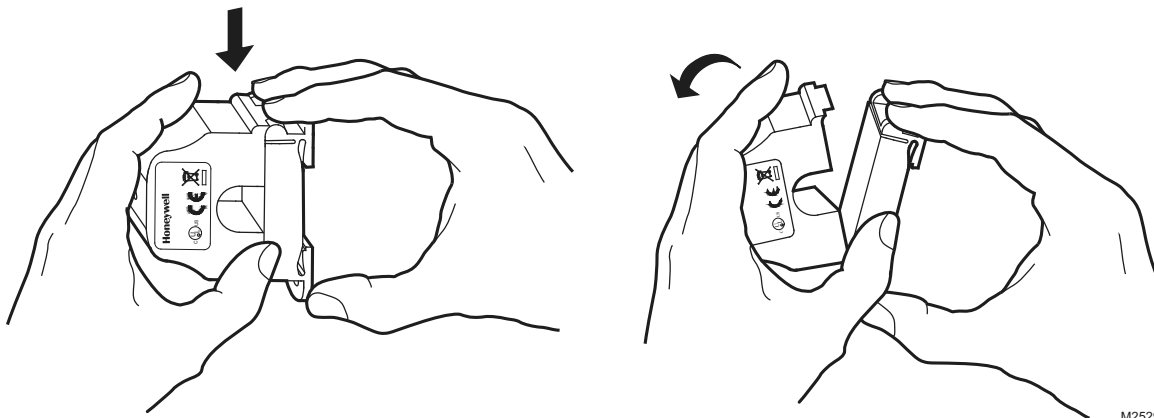
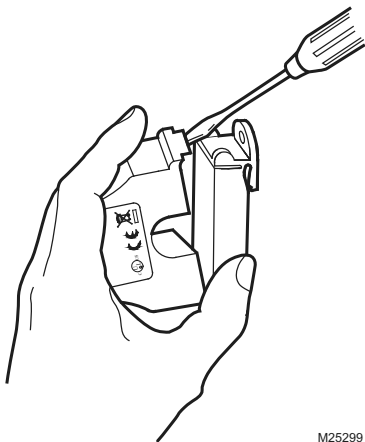

Fig. 7. Opening sensor by hand
Fig. 8. Opening sensor with a screwdriver
Pressing down on the two (2) side tabs and swinging the cover open opens the split core current switch as shown in Fig. 7. Lifting up the latch with a flat-tip screwdriver as shown in Fig. 8 can also open the unit. Press down firmly on the cover to close the current switch. An audible "click" will be heard as the tab slides over the tongue on the base.